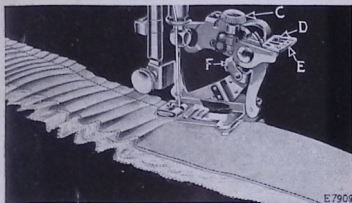

FIG. 47
Raise the adjusting lever (E, Fig. 47) and move it to the right so that the projection (D, Fig. 47)
will enter the slot marked "6" in the adjusting lever when the lever is released. The ruffling blade will then move forward and back once at every six stitches. To adjust the ruffling blade to make a plait once at every twelve stitches, place the adjusting lever (E, Fig. 47) so that the projection (D) enters the slot marked "12" in the adjusting lever. Insert the material to be plaited between the two blue blades, following the line 2, Fig. 42. The size or width of plaits is regulated by the adjusting screw
(C, Fig. 47) and the adjusting finger (F, Fig. 47). To make a wider plait, move the adjusting finger (F) back or toward the needle and turn the adjusting screw (C) downwardly. To make a smaller plait, turn the adjusting screw (C) upwardly. The distance between plaits is regulated by the length of stitch.